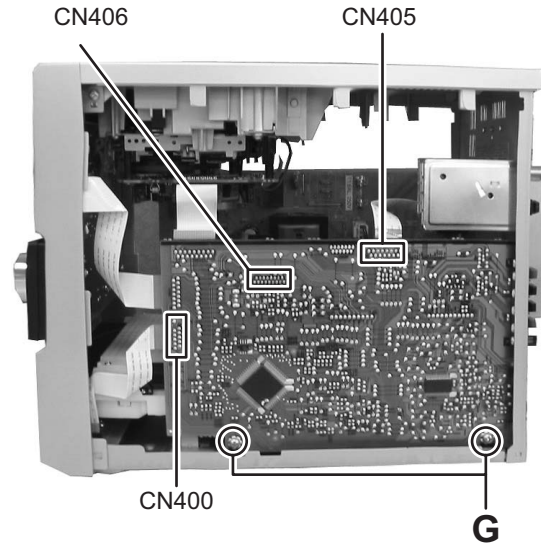

Fig.6
(See Fig.6, 7)
- (1) Disconnect the card wire of the tuner pack from connector CN405 of the micon board. (See Fig.6)
(See Fig.6 to 8)
- (2) Disconnect the card wires from connectors CN400, CN406 of the micon board. (See Fig.6)
- (4) Remove the two screws **G** attaching the micon board. (See Fig.6)
- (6) Solder to short land part **j** of pickup. (See Fig.6)
- (7) Release the lock of connector **CN601** to direction of the arrow 2 and disengage the card wire. (See Fig.6)
- Solder to short land part **j** of the pickup then disconnect the card wire from connector **CN601** of the CD servo board. If disconnect the card wire before soldering, pickup is make sure destroyed by static electricity. (See Fig.6)